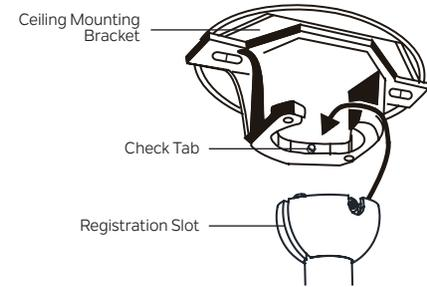

Fig. 10
Step 11. Lift the motor assembly into position and place the hanger ball into the ceiling mounting bracket. Rotate the entire assembly until the “Check Tab” has dropped into the “Registration Slot” and seats firmly. **(Fig. 10)**